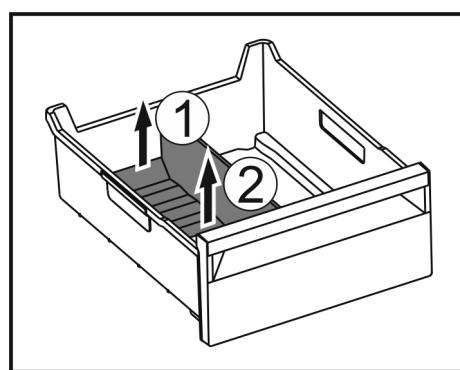

Fig. 112
- Lift the rear part of the ice compartment divider. Fig. 112 (1)
- Remove the ice compartment divider upwards. Fig. 112 (2)